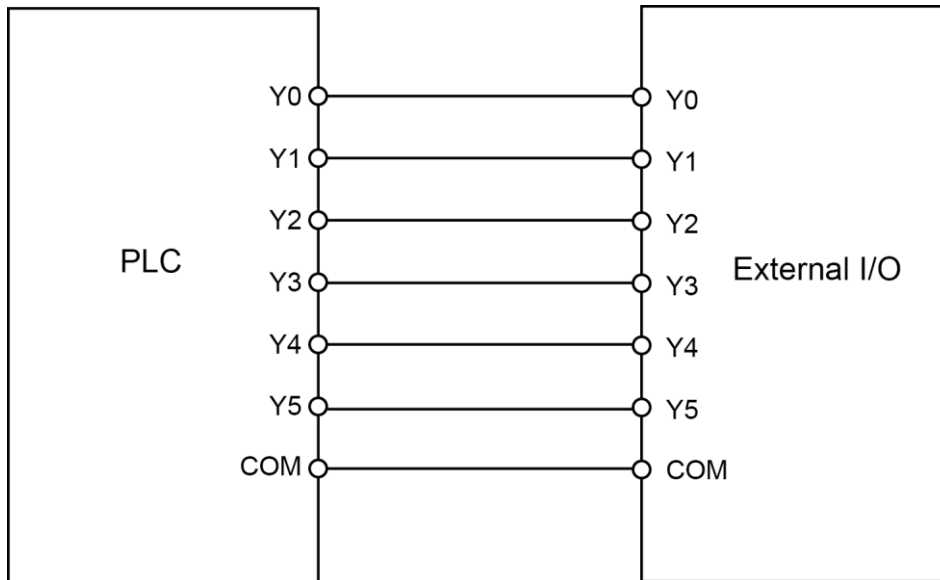

Figure 6.52 Connection between PLC and expansion board
Step 3 Connect the expansion board to the PLC. Supposing that we use PLC interfaces from Y0 to Y5, as shown in Figure 6.52.
4. Check **DIN 11 - DIN 15** according to **3** and Figure 6.52.